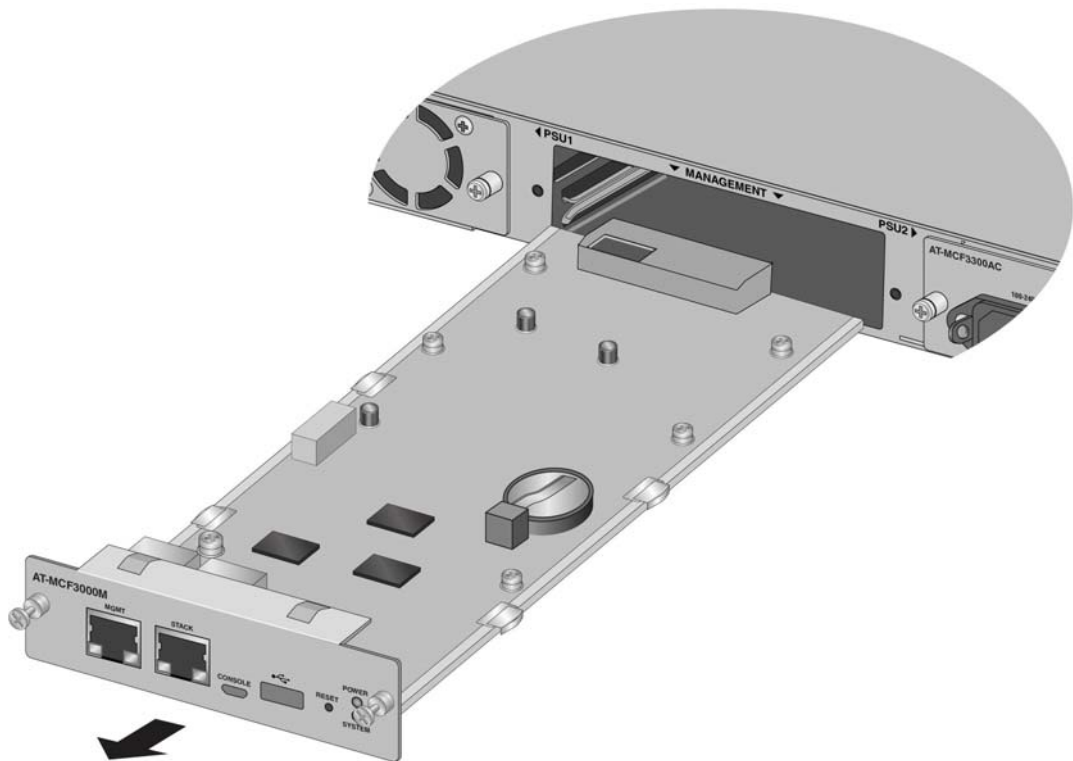

Figure 80. Removing the MCF3000M Management Module from the MCF3300 Chassis
4. Slide the module from the chassis. Refer to Figure 80.